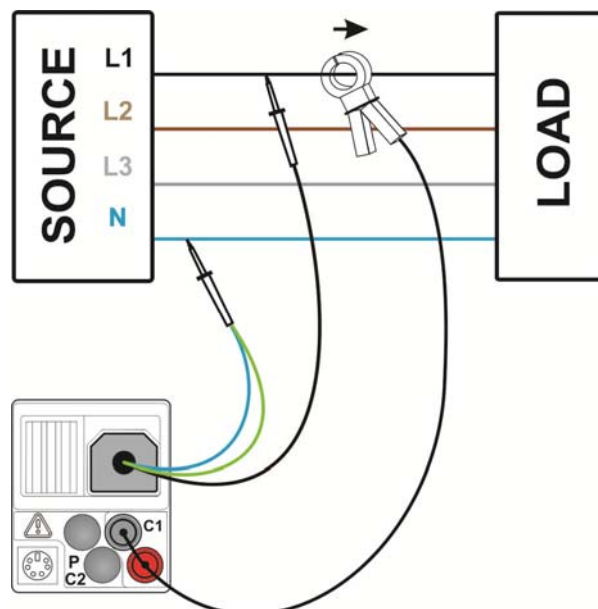

Figure 5.46: Power measurement
- ❑ **Connect** the voltage test leads and current clamp to the item to be tested (see *Figure 5.46*).
See Figure 5.46.
- Connect** the voltage test leads and current clamp to the item to be tested (see Figure 5.46).